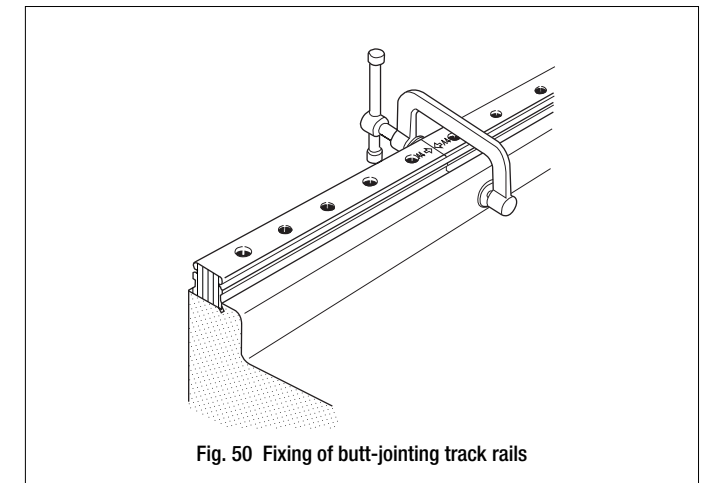

Fig. 50 Fixing of butt-jointing track rails
① Joint the track rails end-to-end in accordance with the match marks, and temporarily fix the rails onto the bed. The butt-jointing interchangeable track rail of interchangeable specification does not require matching butt-jointing rail ends, because the rail is prepared for free combination.
② Fit the reference mounting surfaces of the track rails onto the reference mounting surface of the bed, then fix all track rails one by one. While performing this procedure, tightly press the reference mounting surface of each track rail with a small vise, etc. against the reference mounting surface of the bed at the butt-jointing position so that the track rails at the butt-jointing position are connected without a step. (See Fig. 50.)